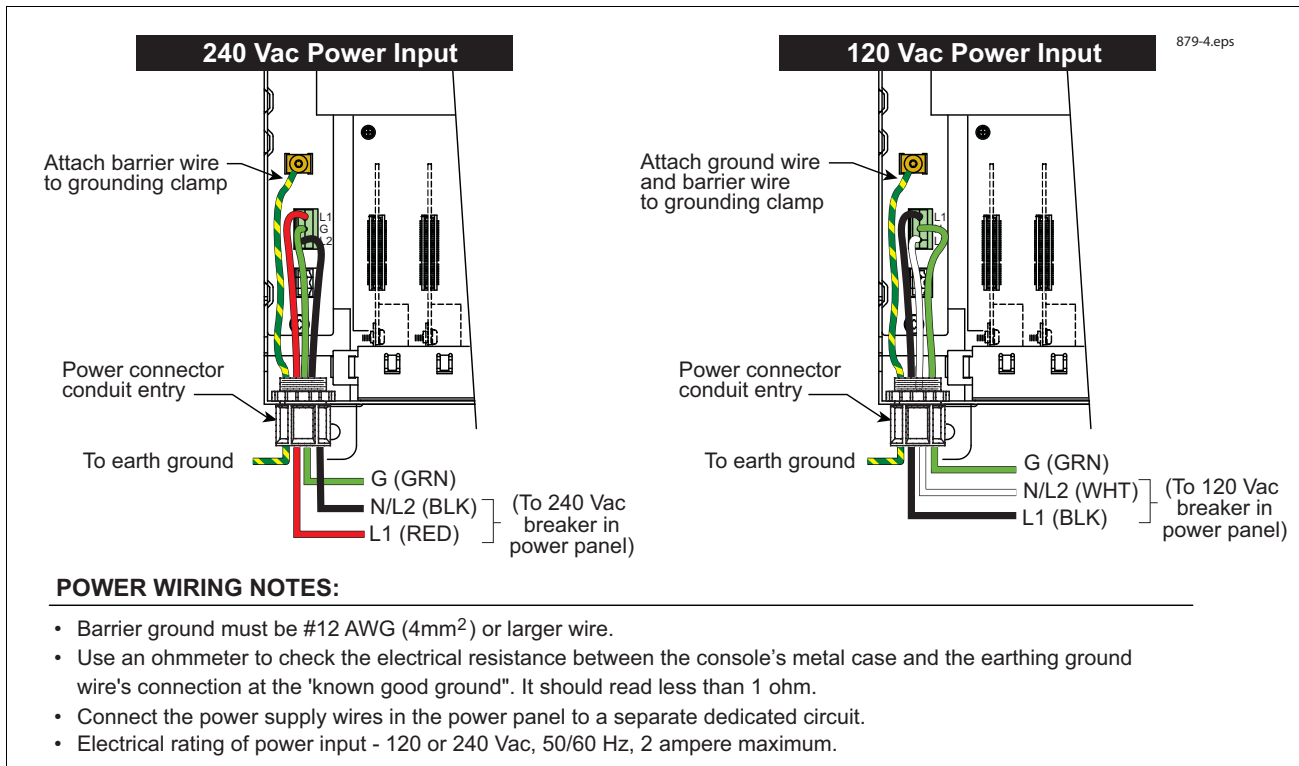

Figure 42. Wiring AC Power to the TLS-450 Console
2. Connect the input 120 or 240 Vac power wires as shown in Figure 42.